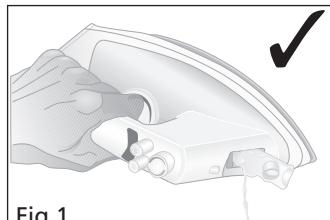
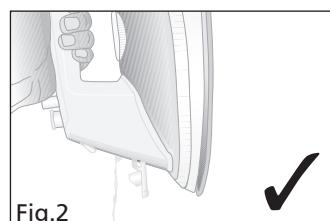

Fig.1
Fig.2
- Drain the water tank ⑥ in that you open up the water fill opening ⑨ and either tip the contents out to the side (see Fig.1) or empty it by tipping it up to the front (see Fig.2).